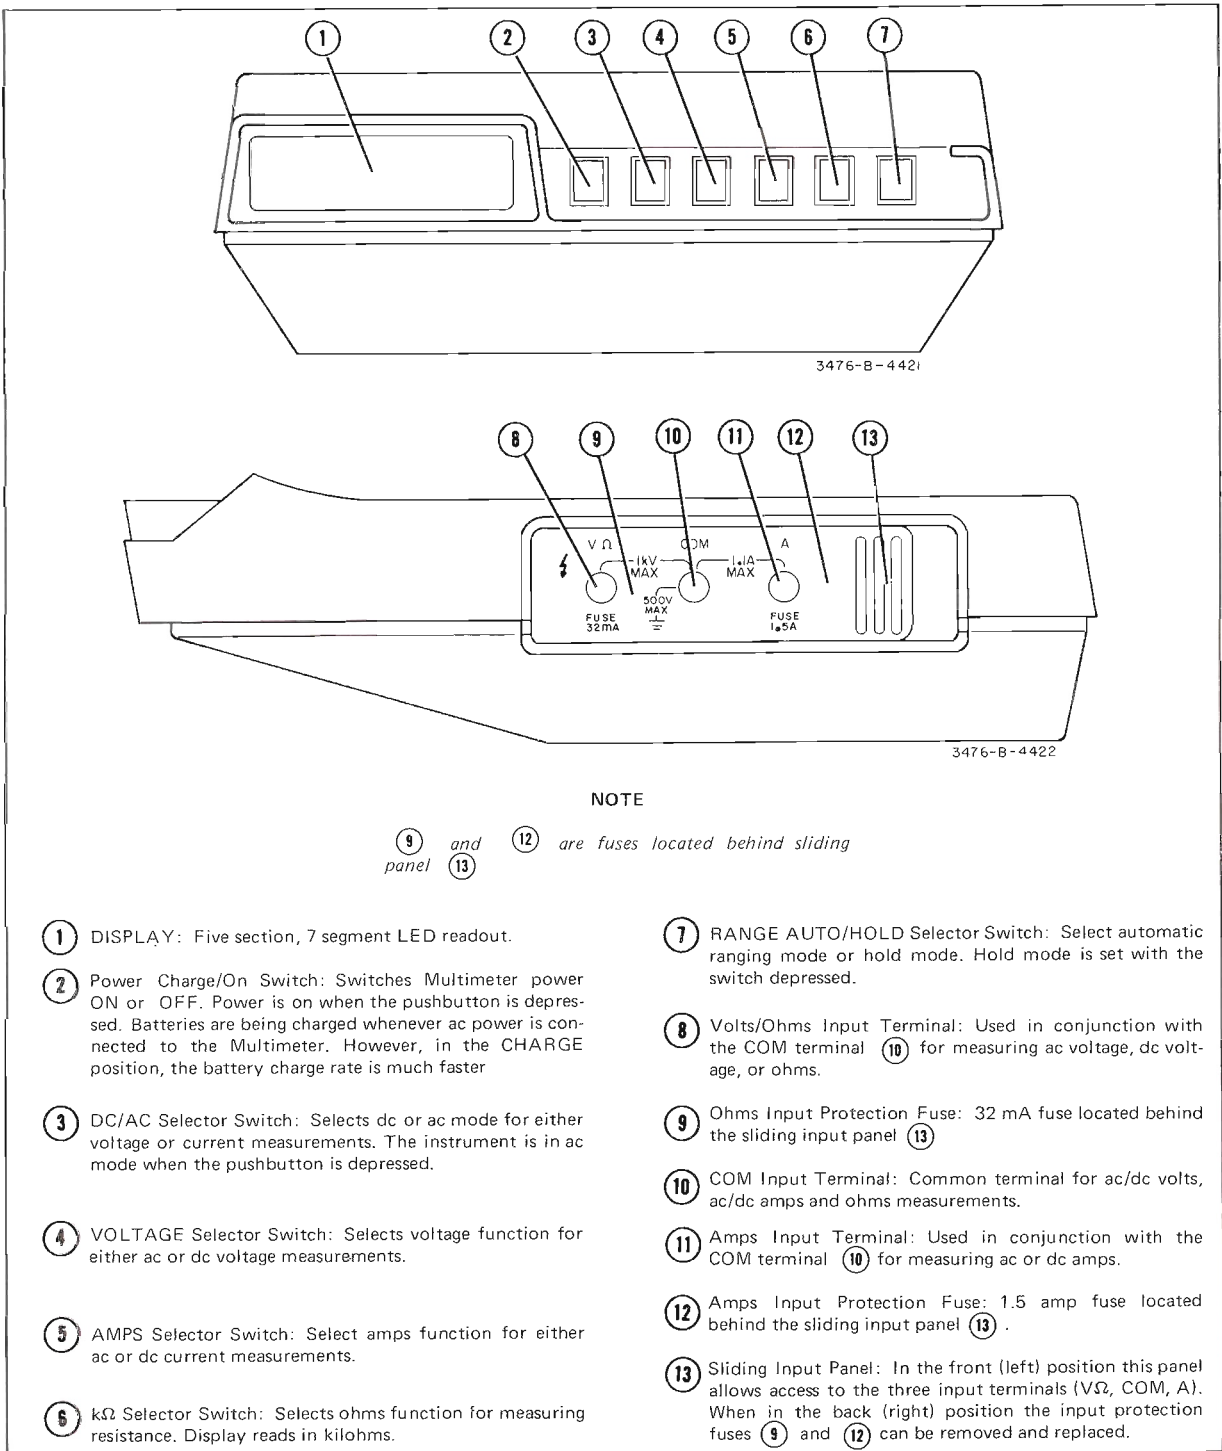

Figure 3-9. Location of Controls and Connectors.
3-34. The AMPS input is protected by a 1.5A 250 V fuse and the OHMS input is protected by a 32 mA 250 V fuse. These fuses are located behind the sliding Input Panel as shown in Figure 3-9, (9), (12), (13). Replacement of these fuses is accomplished by the following procedure: